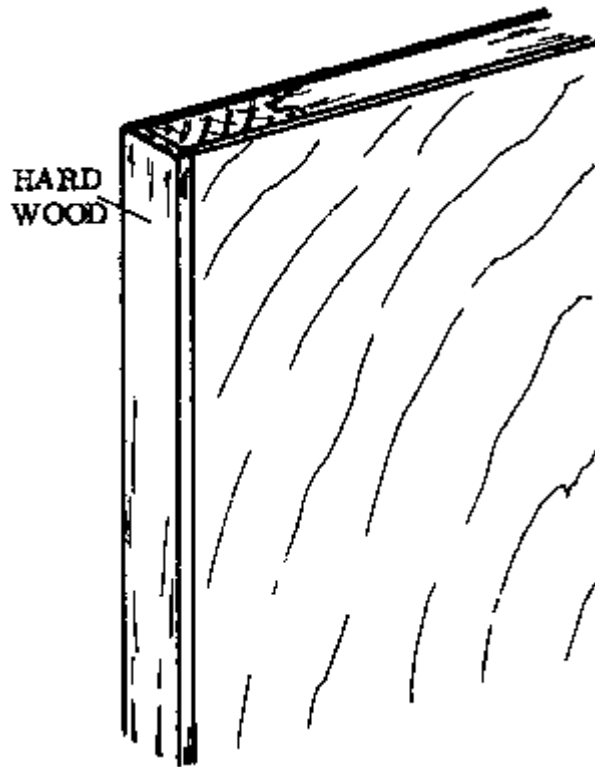

Fig. 4
- LIPPING: A strip of hard wood (Fig. 4) can be fixed to the striking stile to prevent damage to the plywood edges. Lipping is always done after the plywood has been fixed. A thoroughly painted lipping can be added to the top of the door if necessary to keep water out. The lipping joint should be a mitre joint.